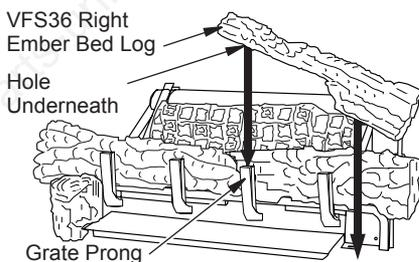

Figure 27 - Installing Right Ember Bed Log
4. The VFS32 and VFS36 use two different right ember bed logs. The VFS32 right ember bed log is installed in the same manner as the log in step 3 above but on the right side. The VFS36 right ember bed log has a hole in the bottom that sets on the grate finger and the other end rest on the fireplace floor, place log as shown in Figure 27. The back side of this log needs to rest against the front of the base assembly, make sure the flame from the ember pan does not touch the ember bed log.